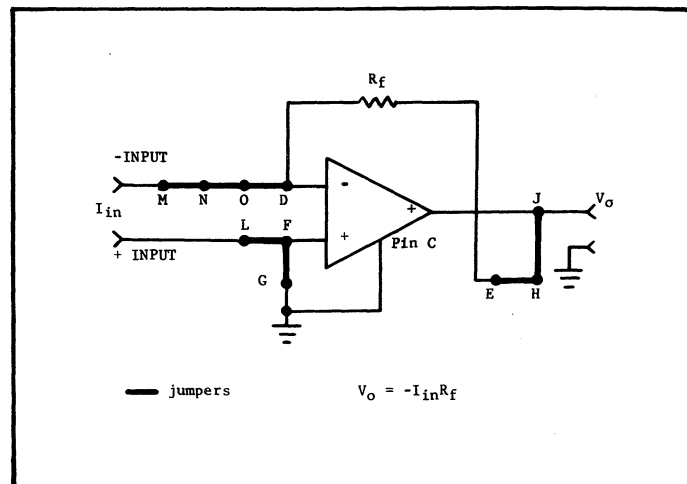

FIGURE 6. Current Amplifier
1. Linear Current Amplifier (Without Fractional Feedback). In this mode a feedback resistor R_f is connected as shown in Figure 6. The output voltage is then proportional to the input current where $V_o = -I \times R_f$. When used in this mode check for jumpers between terminals M-N, N-O, O-D, E-H, H-J, and F-L. Add a new jumper between terminals G-F.